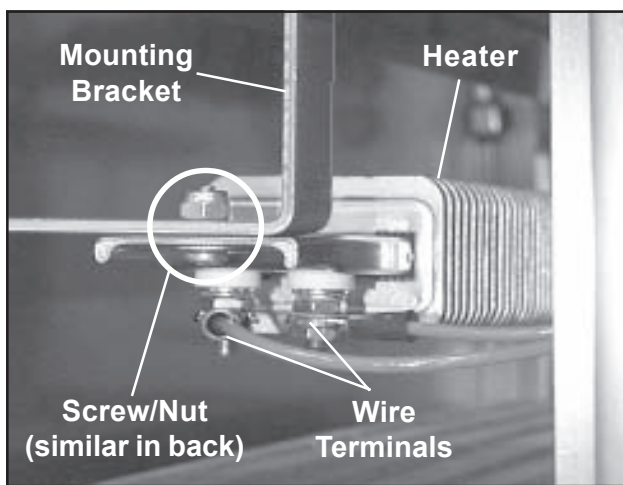

Figure 156. Front View of Heater
5. With a 3/8-in. wrench, dis-connect the two wires from the terminals on the lower front of the heater (Figure 156).
1. Hold the heater in position and mount the rear end to the mounting bracket with the screw/nut removed earlier (Figure 156).